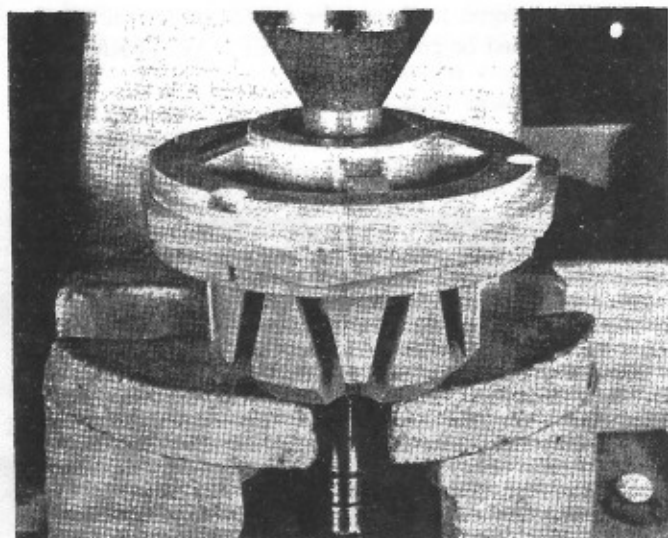

Figure 37
5.2 Press DE housing on rotor shaft. Fig. 37.